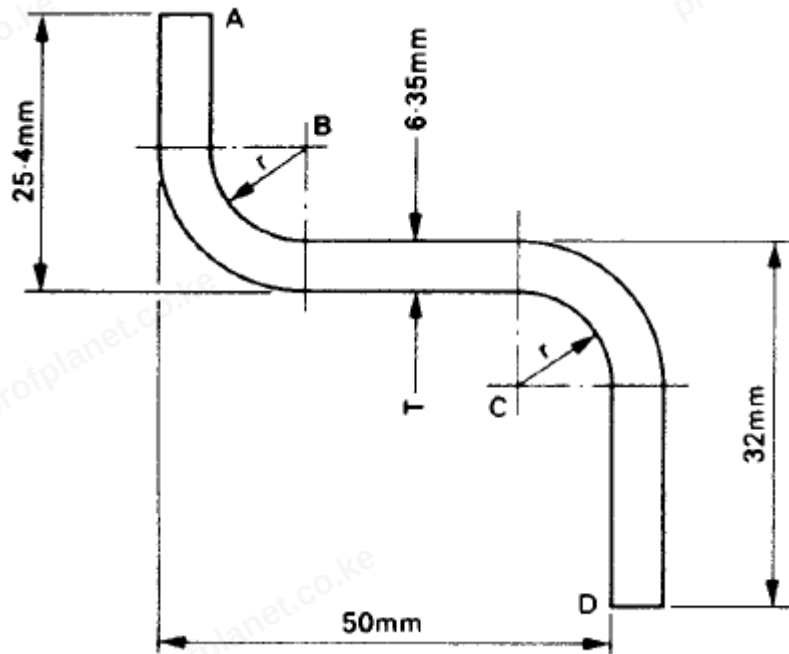

Fig 1
15. Figure 1 below shows a blank required to form a bracket. Calculate the length of the blank required to form the bracket using the neutral line value of $0.4 T$ from the inside bend radius, given that the metal thickness (T) = 6.35 mm and the inside bend radius (r) = $2T$.